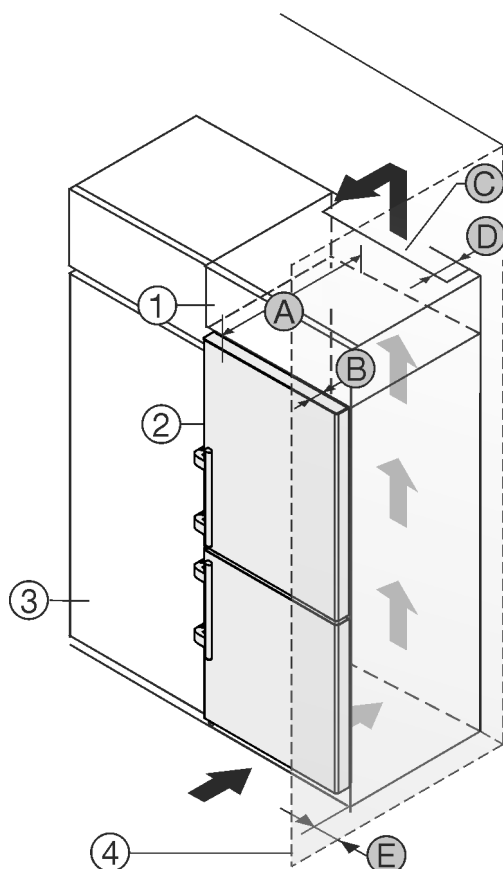

Fig. 1
You can place the appliance directly beside the kitchen cabinet Fig. 1 (3).
There must be a ventilation shaft at the depth Fig. 1 (D) of the back of the top cupboard over the entire width of the top cupboard.
The cross section of the ventilation gap Fig. 1 (C) must be maintained below the ceiling.
If the appliance is set up with the hinges next to a wall Fig. 1 (4), the distance between the appliance and the wall must be at least 57 mm (2 1/4 in) . This is how far the handle protrudes when the door is open.
In order to be able to fully open the door, the appliance must protrude by the depth of the door Fig. 1 (B) from the front of the kitchen cabinets Fig. 1 (3) and use of wall spaces, the appliance can protrude further.